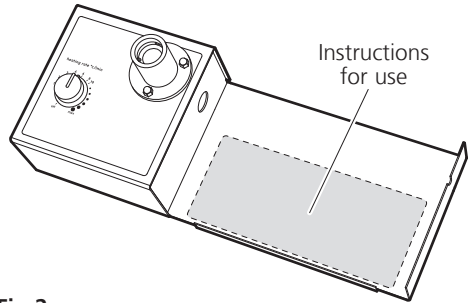

Fig 2
2. (First time only) Once the unit is unpacked, select the appropriate choice of self adhesive instruction label from the multi-language set provided. Peel off the backing and stick the label onto the large recessed metal area on the right side of the MP-100 (see Fig 2). Apply the label carefully using a flat object to smooth away air bubbles.